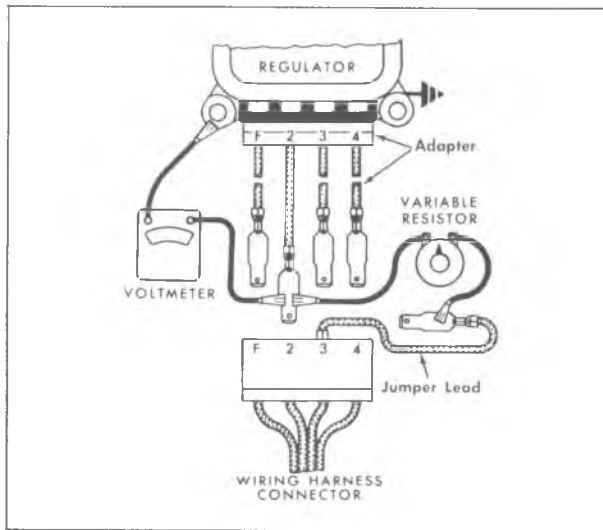

Figure 10—Testing Field Relay Closing Voltage (Two-Unit Type Regulator) (Typical)
**NOTE:** Refer to figure 10 which shows hookup of test equipment.